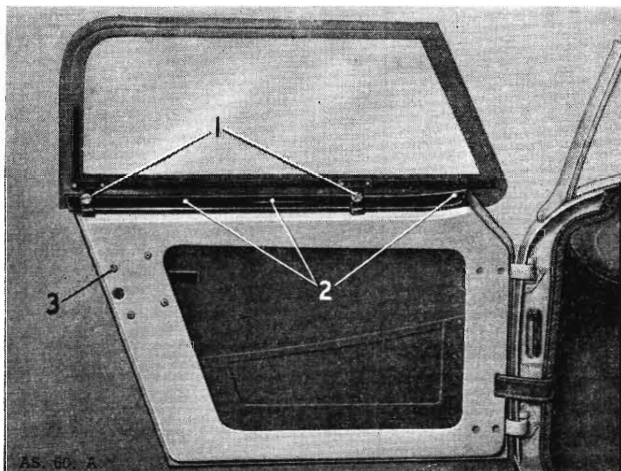

Fig. O.3. The sidescreen, top moulding and door lock fixings are shown at 1, 2, and 3 respectively.
Each sidescreen has two clamping brackets at its base which are held by two large headed screws (1, Fig. O.3) at the door top moulding.
**Door Top Moulding:** The aluminium moulding at each top edge is held in place by three cross-head screws, Fig. O.3.
**Door Catch:** The catch and operating handle complete may be withdrawn by unscrewing the four setscrews positioned inside the door, Fig. O.3.